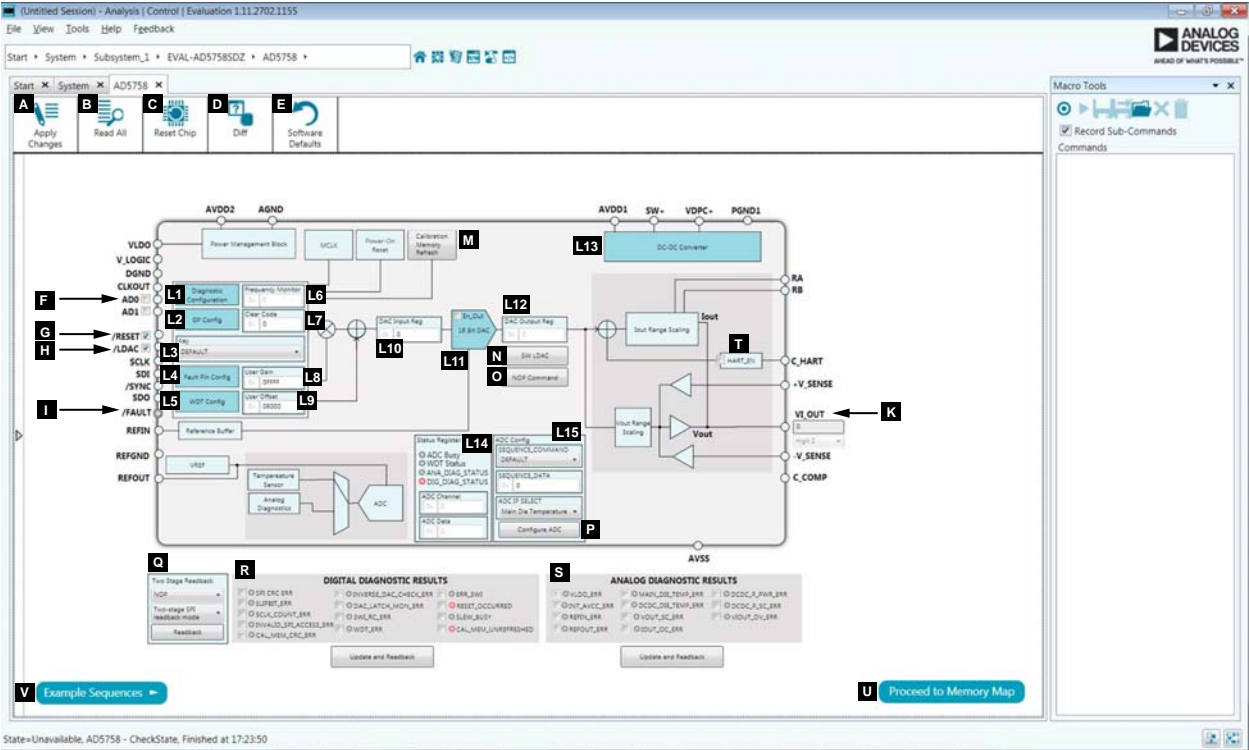

Figure 8. AD5758 Block Diagram with Labels
The AD5758 ACE block diagram, as shown in Figure 8, appears similar to the block diagram shown in the AD5758 data sheet for simplified correlation to the functions on the EVAL-AD5758SDZ evaluation board with the descriptions given in the AD5758 data sheet.
A full description of each block and register setting is available in the AD5758 data sheet. The full screen AD5758 block diagram, with labels, is shown in Figure 8. Table 3 describes the functionality of each block.
Table 3. AD5758 Block Diagram Label Functions (See Figure 8)
E	Click Software Defaults to load the software defaults of the device. These values are not written to the hardware. Click Apply Changes (Label A in Figure 8) to write the software default values to the hardware.
Lx	The graphical user interface (GUI) access on several registers. Pop-ups, dropdown menu, and hexadecimal text fields are available in the GUI to configure several registers of the AD5758. To write the changes to the device, click Apply Changes . The functions within the GUI that control various registers (Label L1 through Label L15 in Figure 8) are described in Table 4.
**Table 4. Register Controls Accessible via the GUI (See Label Lx in Table 3 and in Figure 8)**